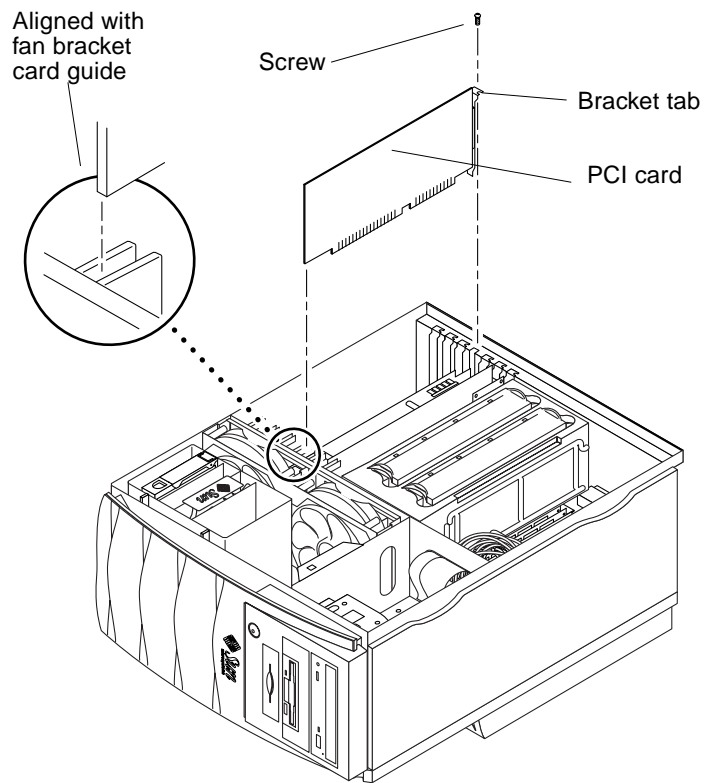

FIGURE 8-2 Removing and Replacing a PCI Card
4. **Using a No. 2 Phillips screwdriver, remove the screw securing the PCI card bracket tab to the system chassis (FIGURE 8-2).**
1. **Position the PCI card in the chassis** (FIGURE 8-2).